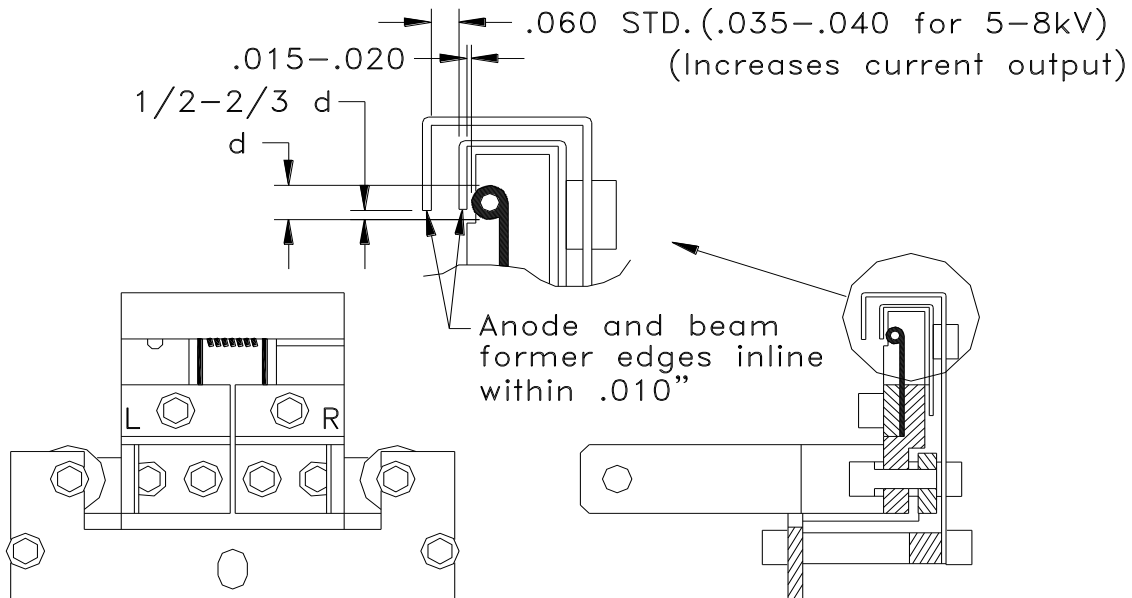

Figure 2-A Filament Location
If the emitter is disassembled, refer to 274-0150-1 pdf for the model 274 and 273-0150-8 pdf drawing for all other sources and figure 2-A. Ninety percent of system problems during production relate to the EB-source emitter, so pay close attention to its assembly. It is of the utmost importance to trouble free runs.
- 11** The relative position of the anode plate, the beam former, and the filament must be precise to .005" (Refer to Figure 2-A). The filament (coils forward!) normally projects 1/2 of its diameter or slightly more (2/3) below the beam former. These dimensions are only a starting point. The clearance between these three elements should be judged based on experienced performance. The source will only work properly if these clearances are properly maintained.
- 5** Install the new filament, making sure that the filament orientation is correct (see figure 2-A). Using new #6 x 1/4" screws, loosely mount the filament clamps in place. Gently tap the emitter assembly on a flat surface to settle the filament into place. Slide the filament clamp on the right cathode block until it is flush with the right side of the block. Snug the right #6 x 1/4" screws. Gently push the left hand clamp into place. NOTE: Sliding this clamp can cause the filament to warp or bow. Snug the left #6 x 1/4" screws. Now check the alignment of the filament to the beam former.
- 9 Push down on the Anode and tighten the last two #6 x 1/4" screws. Check the alignment of the Anode to the beam former (see figure 2-A). The rebuilt emitter assembly is now ready to be installed back in the EB-source.